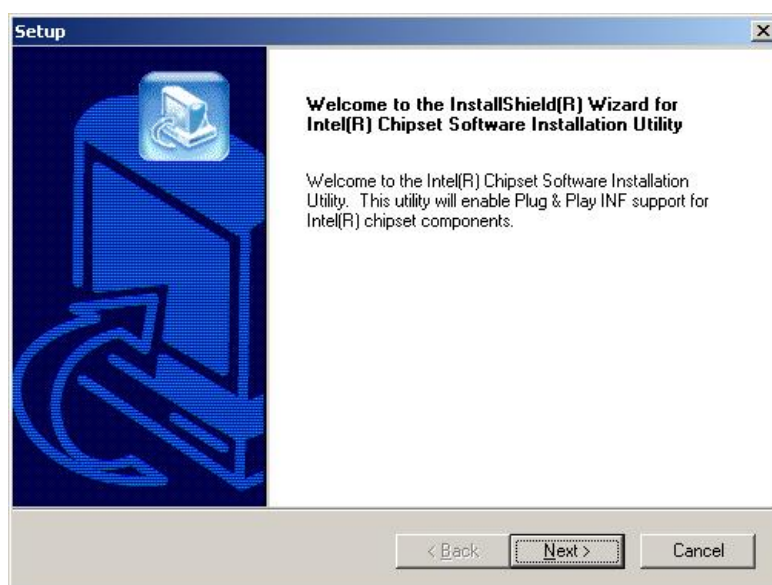

Figure 6-2: Welcome Screen
Step 3: The "Welcome" window in Figure 6-2 appears next.